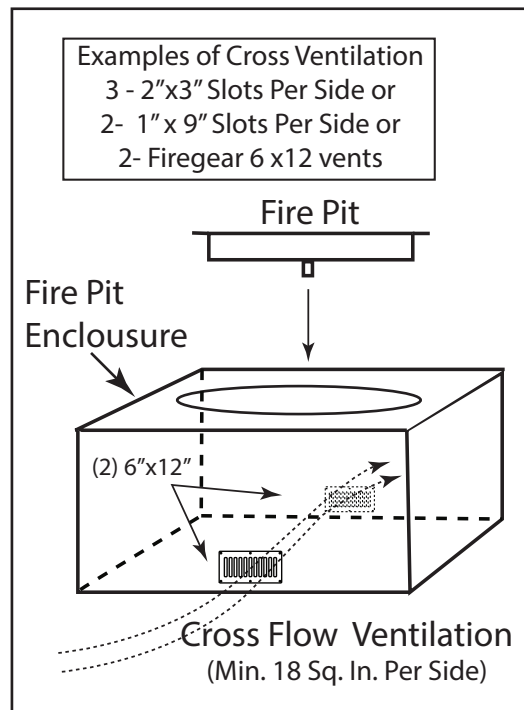

Fig. 3 Cross Ventilation Example
**NOTE:** Do not place fire pit directly on grass, dirt, or rocks this may prevent proper ventilation Fig. 3. In addition, do not recess the fire pit into the ground. **Ensure proper water drainage is also incorporated underneath the fire pit enclosure.**
Fire pits are subjected to many outdoor elements such as rain, snow, wind, heat or cold. **A minimum of 18 square inches (per side) of cross ventilation is required to keep the components in good working order.** Use Fig. 3 as guide to assist to incorporate proper ventilation.